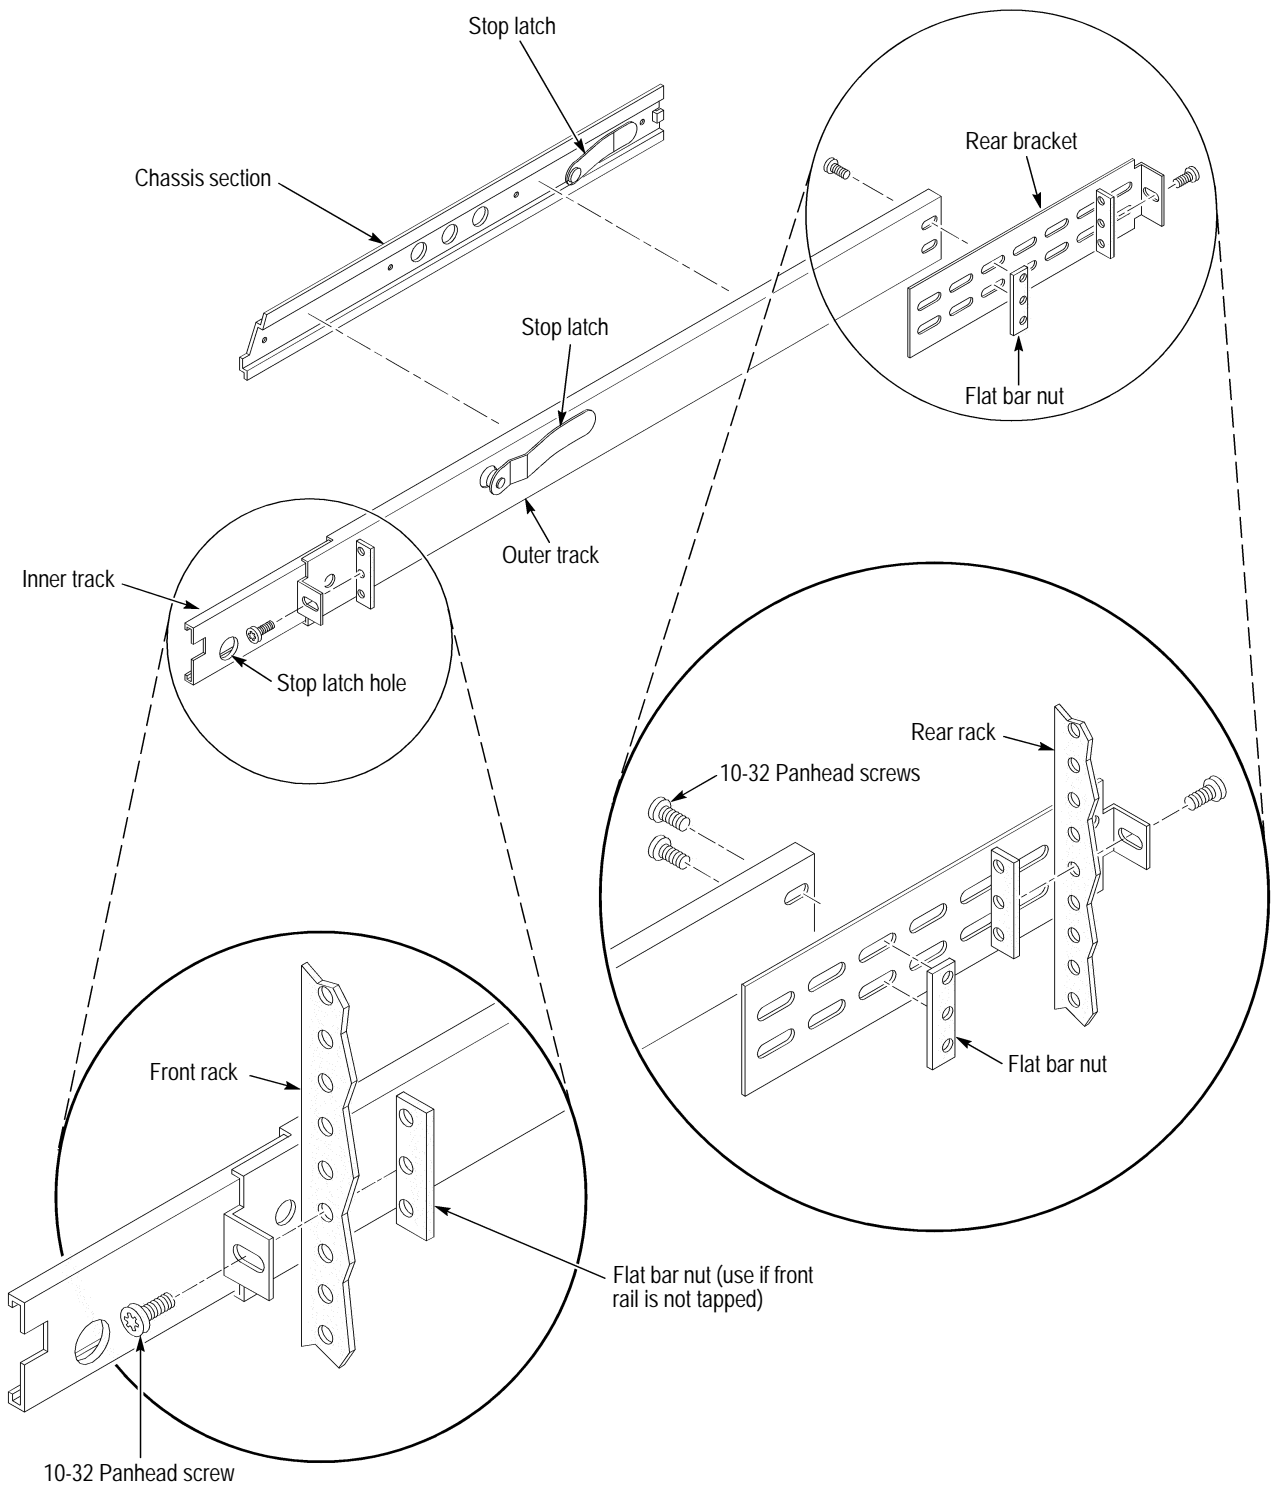

Figure D-1: Assembly of slide-out track assemblies (right slide-out track)
3. Align the rear bracket to the right slide-out track as shown in Figure D-1. Note that the rear bracket has multiple pairs of mount-through holes. When aligning the bracket and track, be sure to select a pair of holes that mount the rear bracket so that the flange-to flange distance matches the front-rail to rear rail spacing of the rackmount rack just measured in step 2.